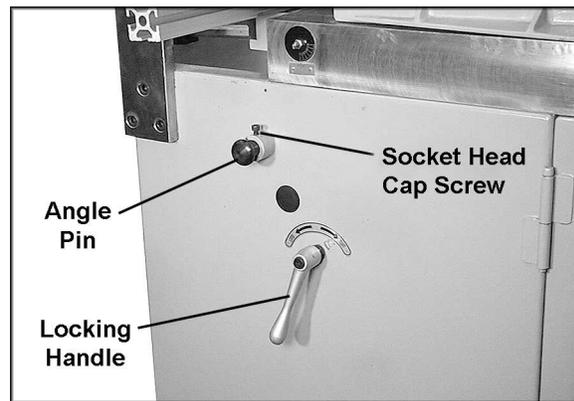

Figure 21
**⚠WARNING** Make sure the locking handle (see Figure 21) on the side of the machine is tightened before connecting the air, to prevent the boring head from rising suddenly.
2. Loosen the locking handle (rotate counterclockwise) on the left side of the machine frame. See Figure 21.
5. When using the 45-degree stop, always tighten the locking handle (Figure 21).